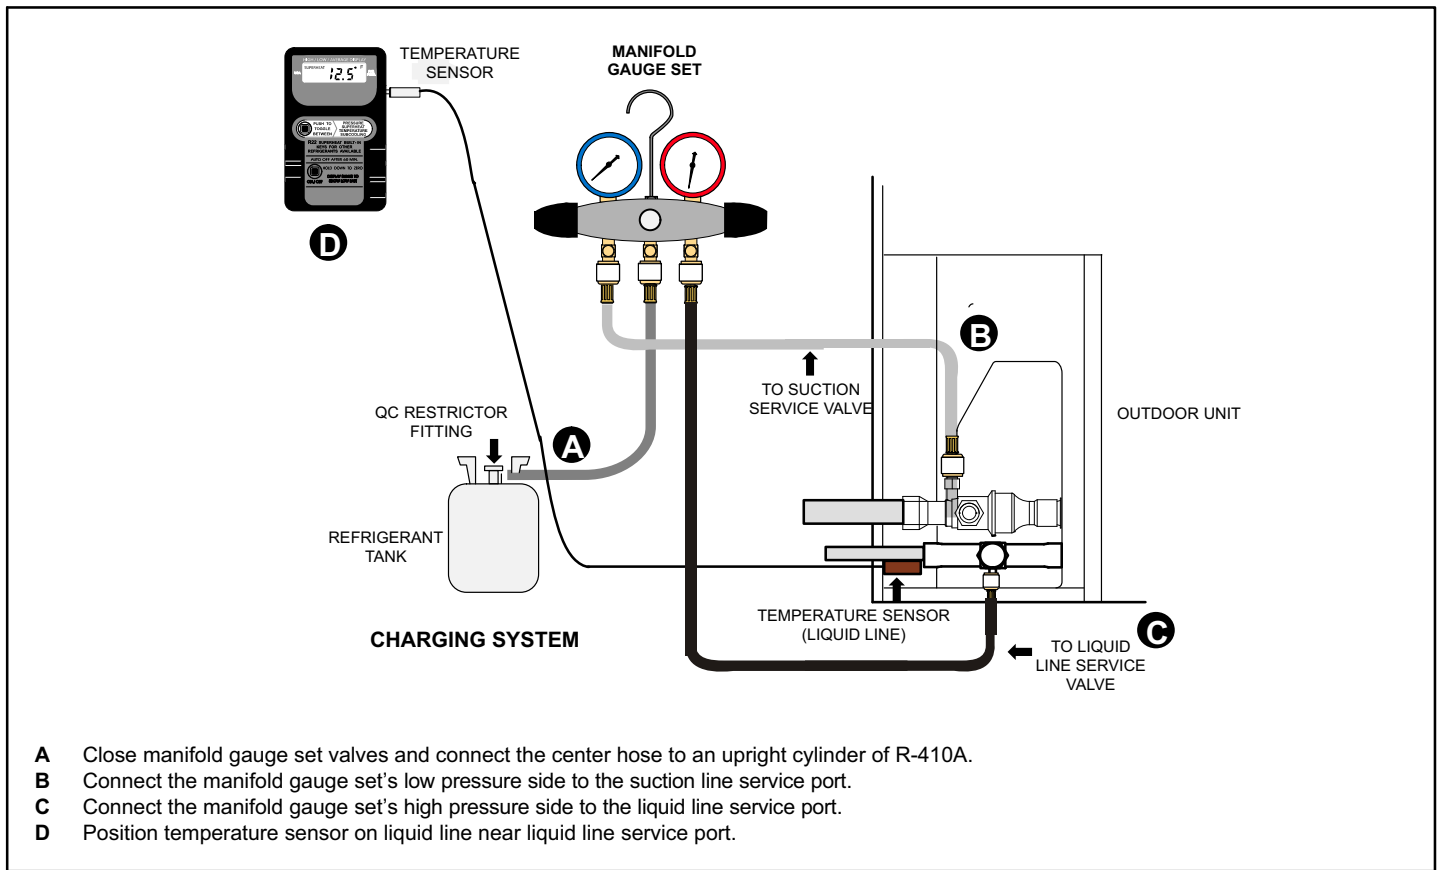

FIGURE 17
- 1.. Connect gauge set as illustrated in figure 17.